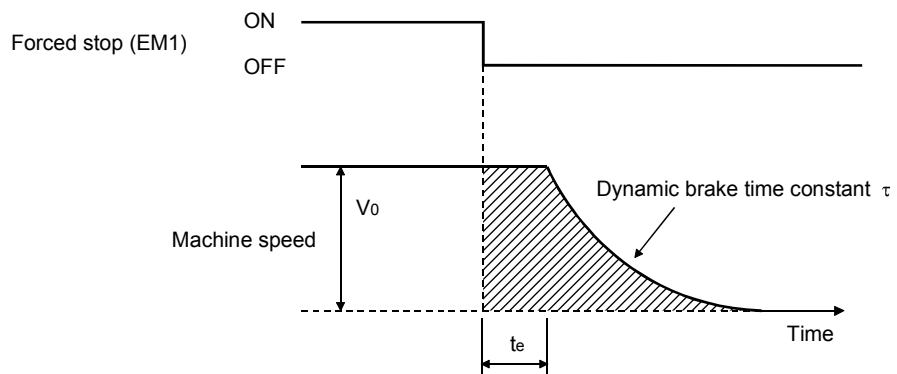

Fig. 14.3 Dynamic brake operation diagram
Fig. 14.3 shows the pattern in which the servo motor comes to a stop when the dynamic brake is operated. Use equation 14.1 to calculate an approximate coasting distance to a stop. The dynamic brake time constant τ varies with the direct drive motor and machine operation speeds. (Refer to (1) (b) of this section.)